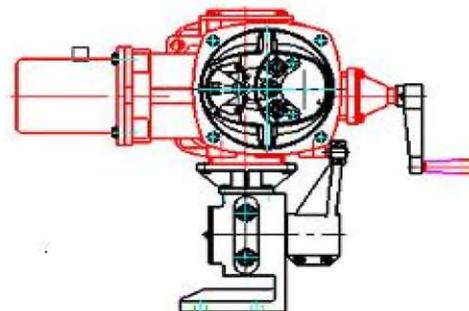

图2d
11. Electric implementing agencies(M8310/8410~30),when paired with the corner-type gearbox(with leverage A8005L~A8090L) , in order to prevent interference , prohibited according to the Fig.2c/Fig.2d with a ban "×" location of assembly ,in addition can be.